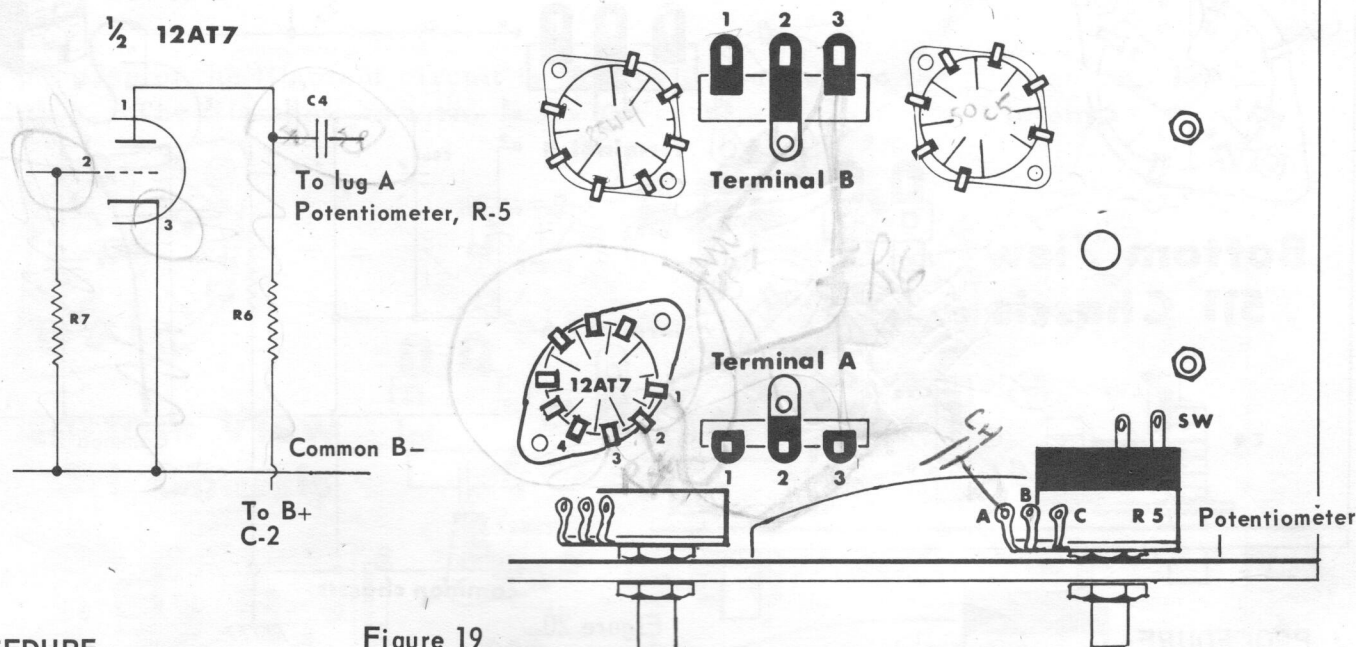

Figure 19
- 1 On the pictorial layout, Figure 19, draw the placement of resistors R-6, R-7 and capacitor C-4. Also, show the lead connecting the cathode of the 12AT7, pin 3, to the common B-